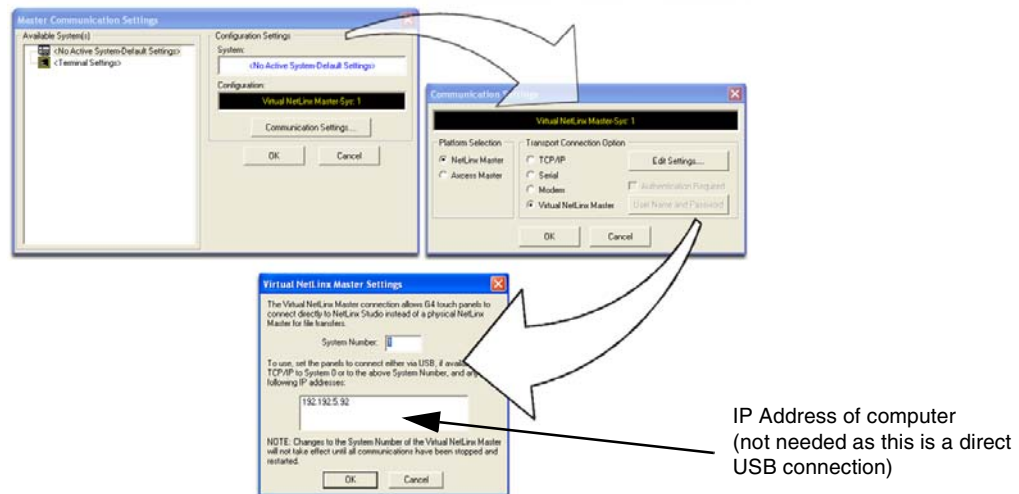

FIG. 56 Assigning Communication Settings for a Virtual Master
- Select **Settings > Master Communication Settings**, from the Main menu to open the Master Communication Settings dialog (FIG. 56).
7. Click the **Edit Settings** button (on the *Communications Settings* dialog) to open the *Virtual NetLine Master Settings* dialog (FIG. 56).